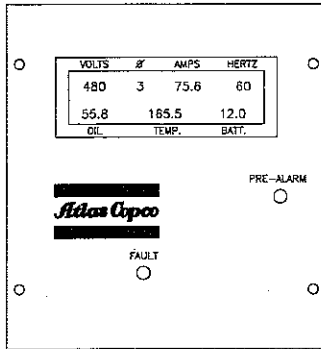

Fig. 4 LCD Display screen
- Oil pressure, water temperature, generator frequency (Hz), and battery voltage are continuously displayed on the LCD display, while AC volts and amperage values are scrolled (Fig. 4). Should a pre-alarm condition occur the pre-alarmed value will flash on the display, the amber LED will turn on, and prealarm relay closes.